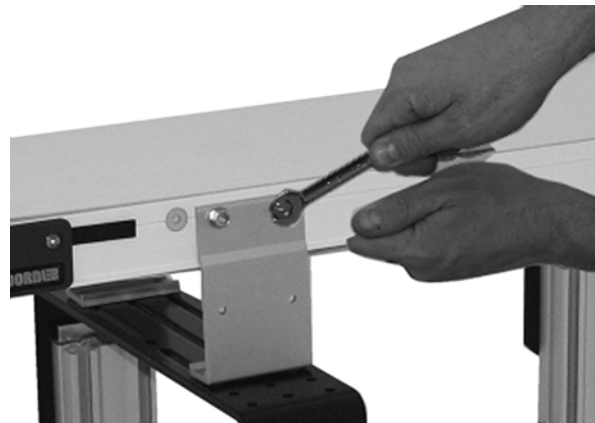

Figure 23
4. Hand tighten the screws to secure (**Figure 23**). Recommended torque is 150 in.lbs (17 Nm).